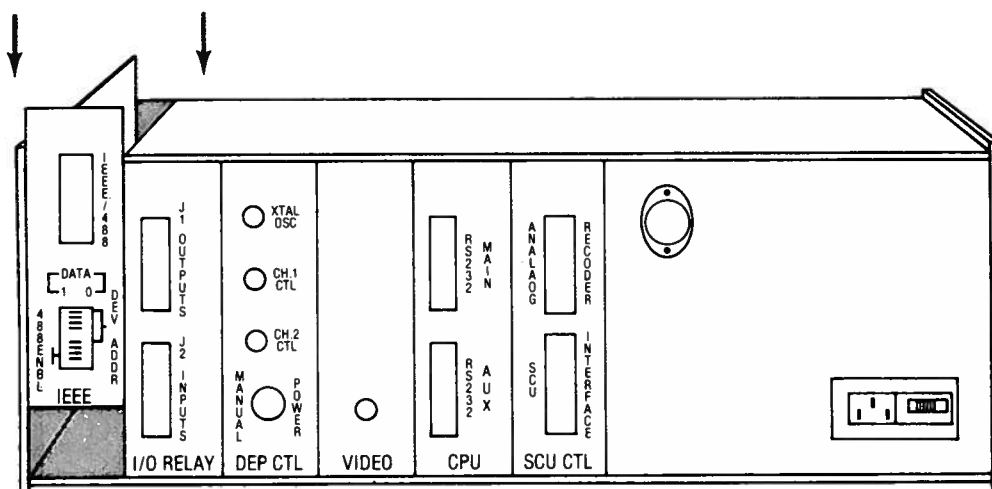

Figure 3.14 - IEEE-488 Board Placement
- The IEEE option module should be installed in the empty slot at the left (as viewed from the rear). Remove the cover plate from the empty slots. Then carefully insert the card as shown in Figure 3.14, noting that there are alignment slots to insure the correct mating of the board and sockets. Make sure the board is fully inserted in the sockets. Install the 3 screws in the rear panel and replace the cover.